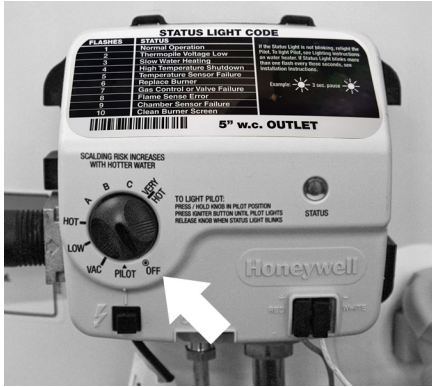

Figure 1: Gas valve in "off" position.
- 1 Move the ON/OFF switch on the gas control valve/thermostat to the "OFF" position to turn off the water heater (Figure 1).